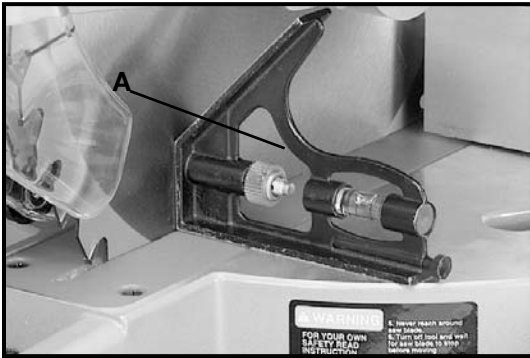

Fig. 27
3. Place one end of a square (A) Fig. 27 on the table and the other end against the blade. The blade should be set at 90 degrees to the table.